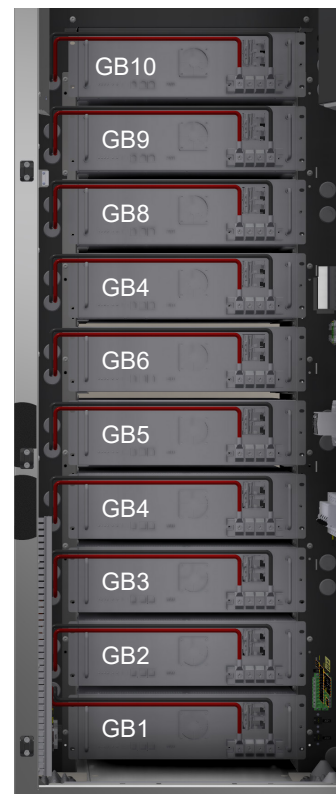

Figure 4.42 Battery cables
6. Repeat step 4 and 5 to connect all other batteries installed in the system (see *Figure 4.42*).